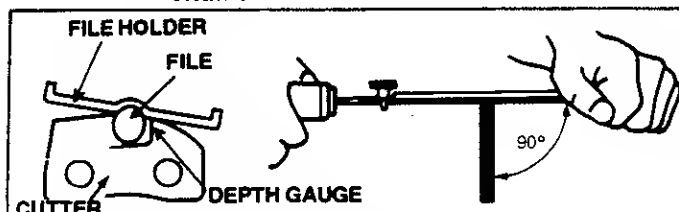

Figure 30
- a.) Position the file holder level on the top plate of the cutter and depth gauge as shown in Figure 30.